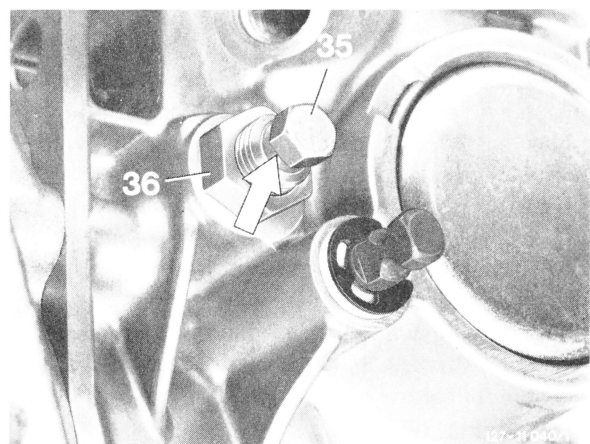

Fig. 71
**Attention!** Do not use adjusting screw (35) again, but use a new adjusting screw having a recess behind octagon (arrow in Fig. 71) as a replacement.